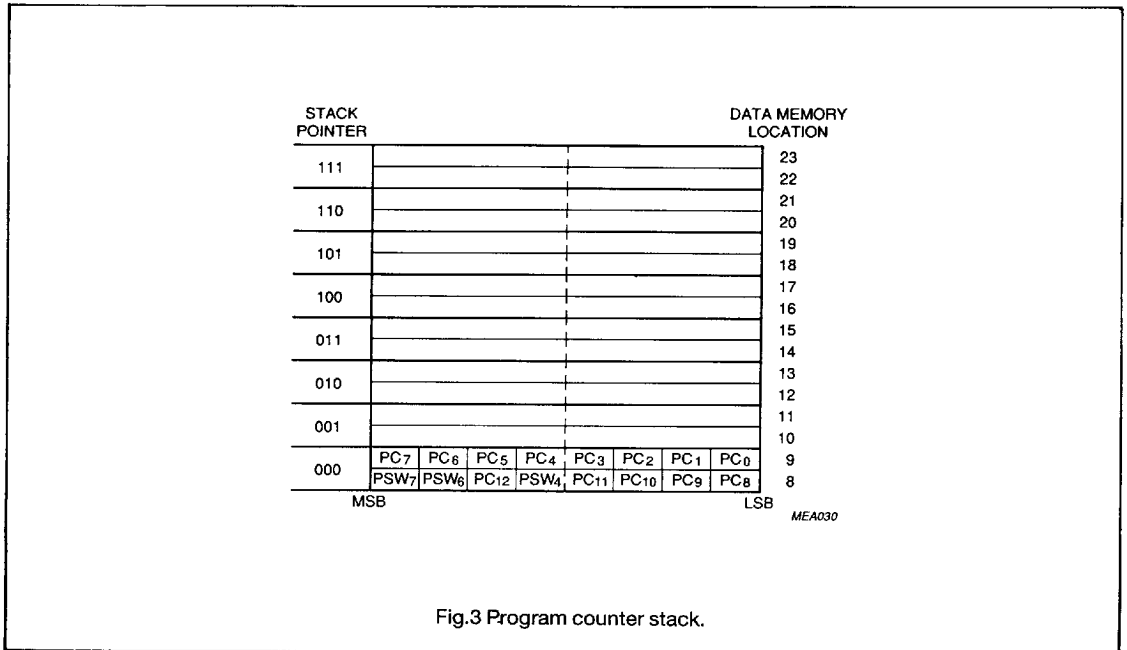

Fig.3 Program counter stack.
Locations 8 to 23 of the data memory are designated to an 8-level program counter stack (2 locations per level). See Fig.3. A 3-bit stack pointer (SP) points to the next free location on the stack. After a RESET, the SP contents are 000 and the SP points to data memory locations 8 and 9.